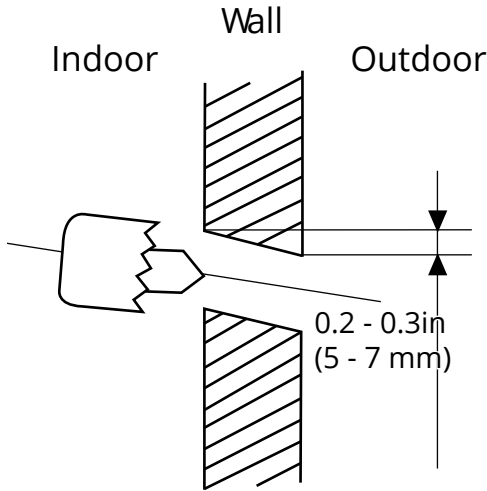

Fig.3.2
2. Using a core drill [3.5in (76.2mm) for 24K units, 2.5in (65mm) for all others], drill a hole in the wall. Make sure that the hole is drilled at a slight downward angle, so that the outdoor end of the hole is lower than the indoor end by about 0.2 to 0.275in (5mm-7mm). This will ensure proper water drainage. (See **Fig. 3.2**)